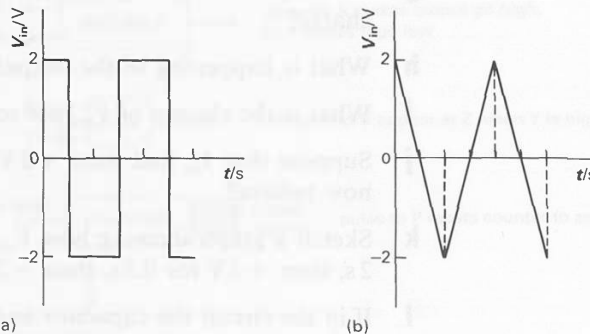

Figure I68
- b** V_{in} is a 'square wave' between +2 V and -2 V, of frequency 20 Hz. See figure I68(a).
- c** V_{in} is a 'triangular wave' between +2 V and -2 V, of frequency 0.5 Hz. See figure I68(b).